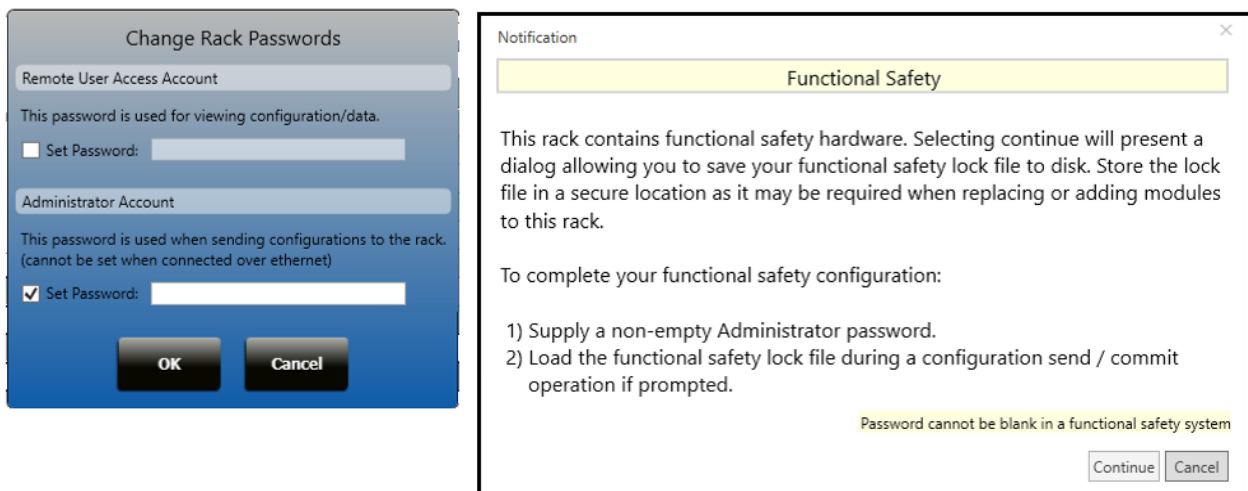

Figure 160: Functional Safety - Set Password
- A message box is displayed (see Figure 160), select Continue